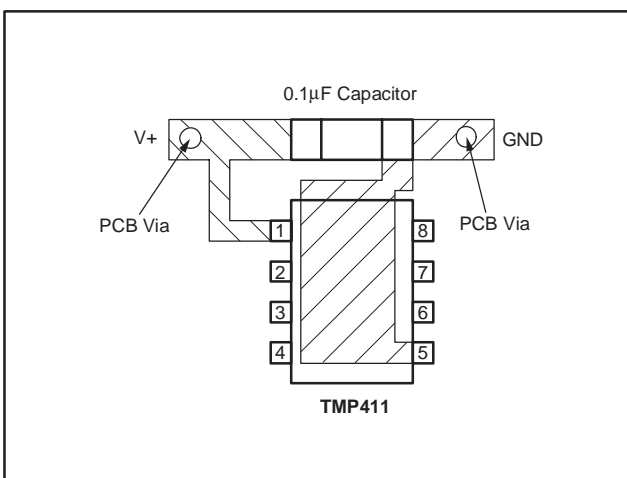

Figure 19. Suggested Bypass Capacitor Placement
4. Use a 0.1 μ F local bypass capacitor directly between the V+ and GND of the TMP411, as shown in Figure 19. Minimize filter capacitance between D+ and D– to 1000pF or less for optimum measurement performance. This capacitance includes any cable capacitance between the remote temperature sensor and TMP411.